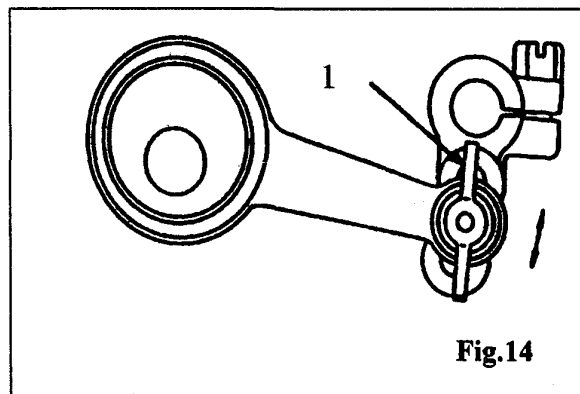

Fig.14
12. ADJUSTING THE LIFT OF THE ALTERNATING PRESSER FOOT(Fig.14)